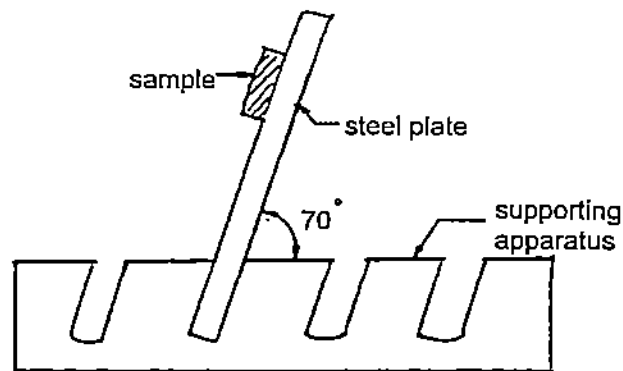

Figure 4
- (1) Fluidity testing plate : Follow Figure 4.
- (2) Stop watch
Coat the plate with the sample as in Figure 4, like letter "L" of 5 mm thick and 10mm long.
Set up the specimen inclined to 70 degree right after fabrication like Figure 4 and measure the fluidity after 10 minutes.